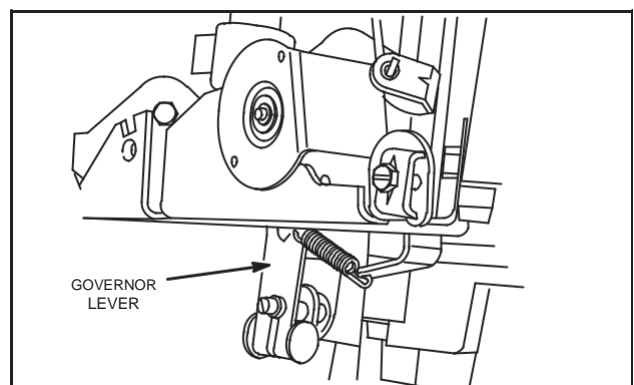

Fig. 17 – Install Governor Lever
4. Reassemble governor lever to governor shaft, Fig. 17. **DO NOT** tighten nut at this time.